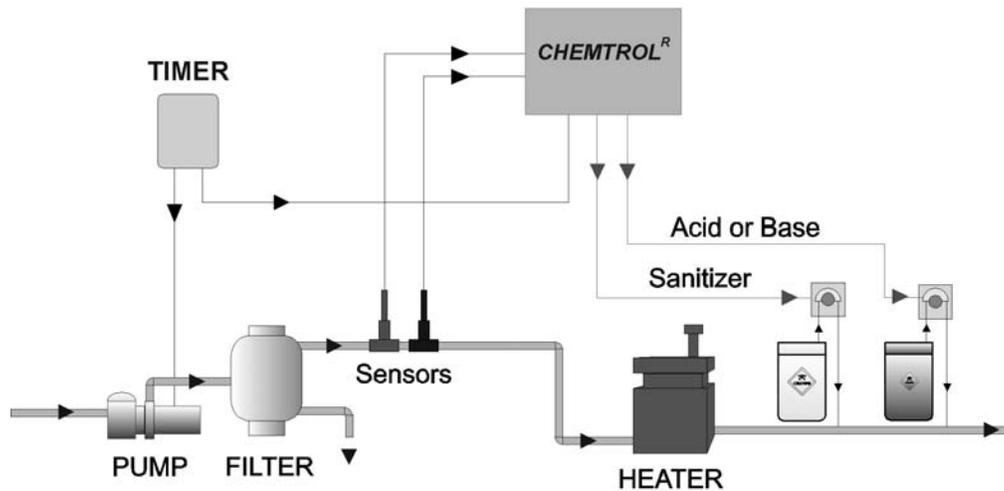

Figure 2 - Installation with Sensors on Main Line
Mount the controller cabinet as shown in Figure 2 on a wall in a secure location:
- directly on the main recirculation line (Figure 2) (2 in. pipe only),
On smaller installations (2" pipe diameter), the sensors can be mounted directly on the main recirculation line (Figure 2).
Always **interlock the controller with the timer on the main power supply** (see Figure 2) to prevent injection of chemicals when the recirculation pump is not running.
Install the feed pumps for liquid chlorine, calcium hypochlorite or dichlor solutions as shown in Figure 2, according to the manufacturer's instructions.